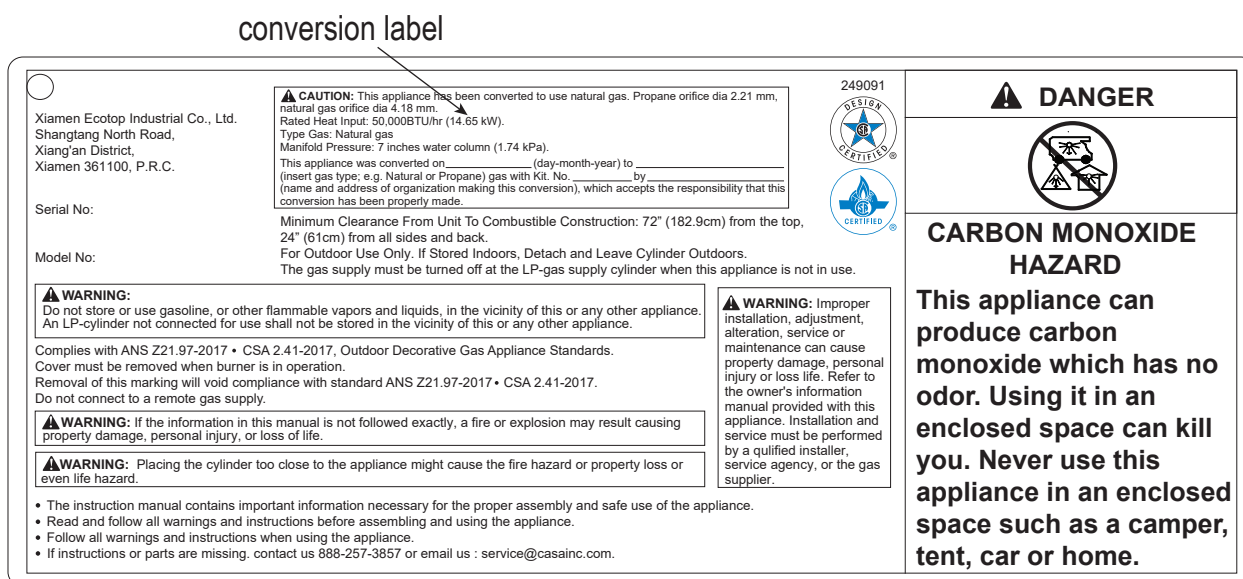

Figure 13
5. Stick and cover the conversion label onto the propane rating plate (see Figure 13).